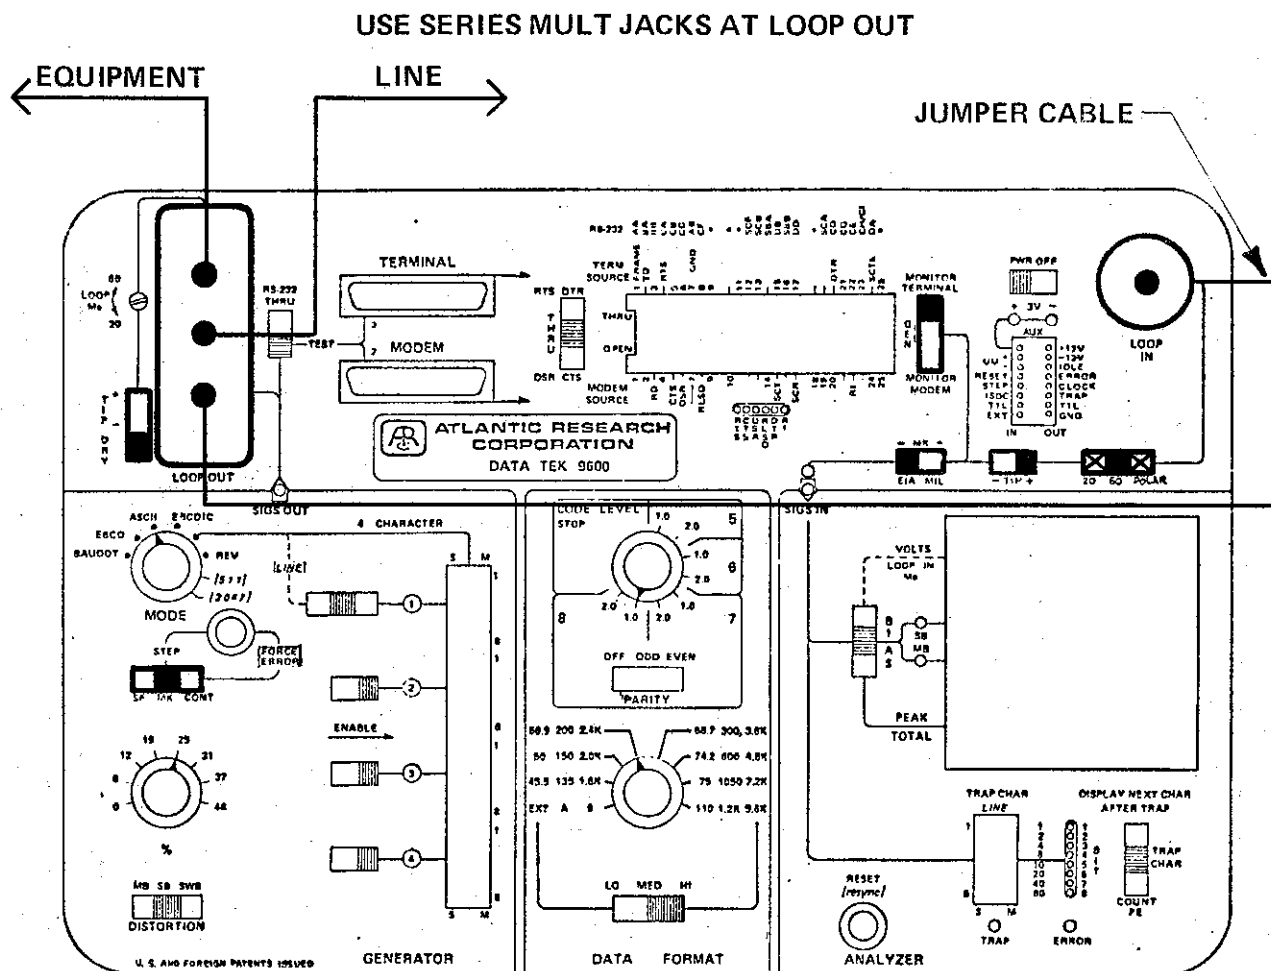

Figure 3-10b. Loop Access.
Where there is no series monitor jack, the 3 series MULT jacks on the generator can be used as shown in Figure 3-10b. The generator must be selected to Idle Mark (MK) and DRY output. The MULT jacks will present approximately a 2-volt drop due to the internal keyer.